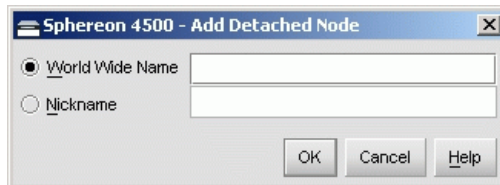

Figure 2-92 Add Detached Node Dialog Box
6. To add a WWN or nickname for a device not connected to the switch, click *Detached Node*. The *Add Detached Node* dialog box displays (Figure 2-92 on page 2-101).